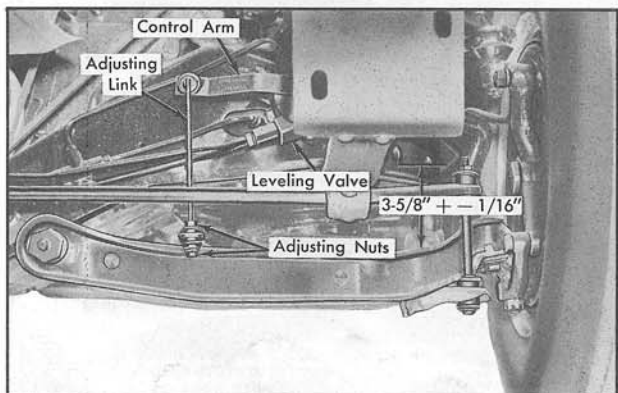

Fig. 4-22 Front Standing Height Adjustment
2. Measure the distance from the top of the left lower suspension arm to the center of the outer lower rivet on the front of the frame. This measurement should be $3-5/8" \pm 1/16"$, Fig. 4-22. If measurement is not within specifications, proceed with Steps 3 through 5, below.